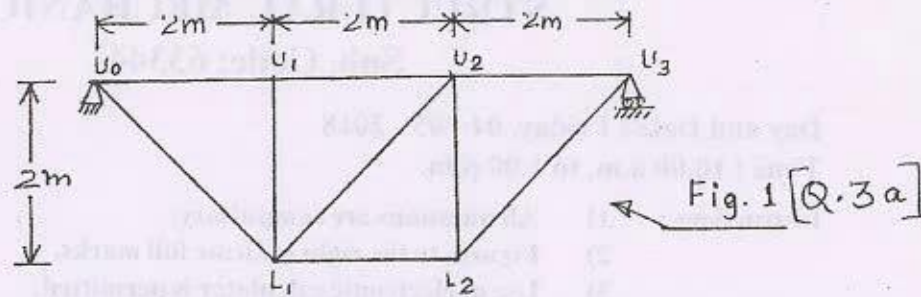

Fig. 1 [Q.3 a]
- a) Construct the influence line diagrams for the force in members U_1U_2 , U_2L_1 and L_1L_2 for the deck truss shown in fig.1